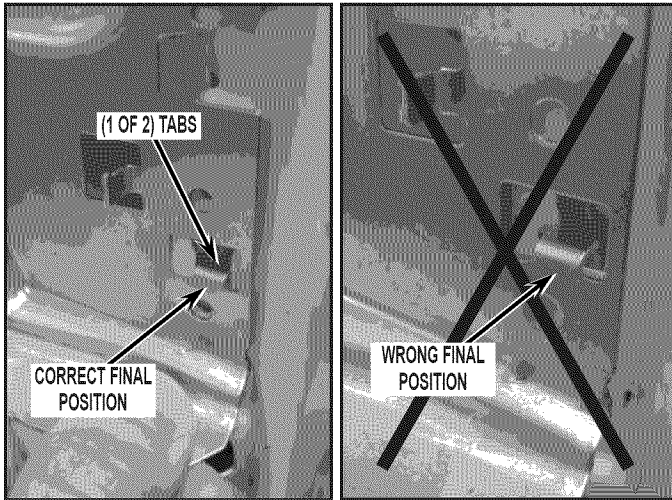

FIGURE 38
- When reattaching the upper front bracket, make sure the central control bracket front is above the upper front bracket, see *Figure 12B*. Insert and push down two (2) ear tabs on either side of bracket, *Figure 38*. Reattach five (5) screws as shown in *Figures 12A and 12B*.